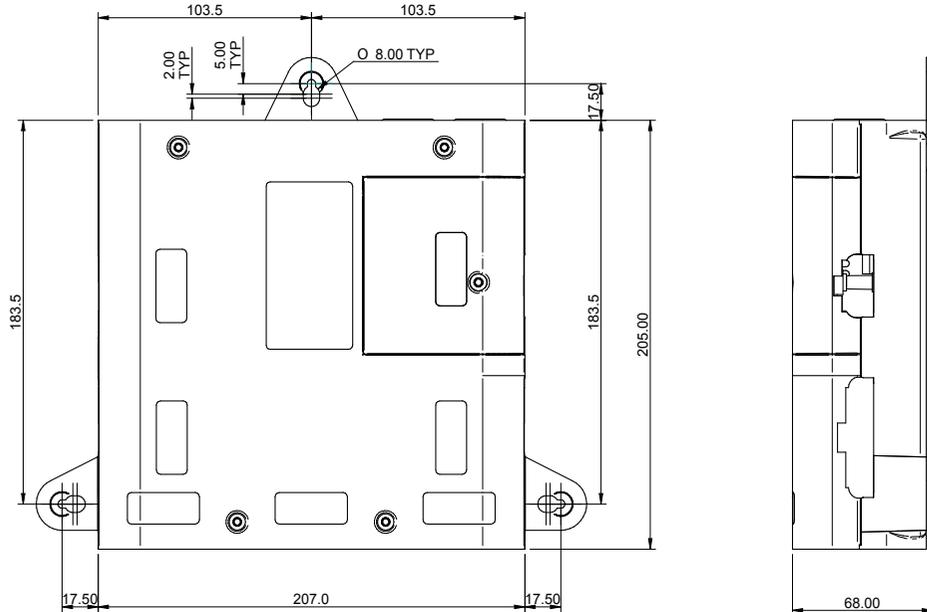

Figure 1.2
- 2) Mount by three mounting feet. Each foot has an elongated hole for 8mm rod and small hole positioned in a shallow recess to suit screw installation. (Figure 1.2)